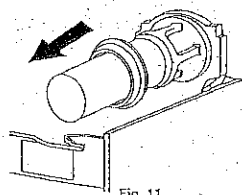

Fig. 11
5. Remove the bowl gasket from its seat (Fig. 11)